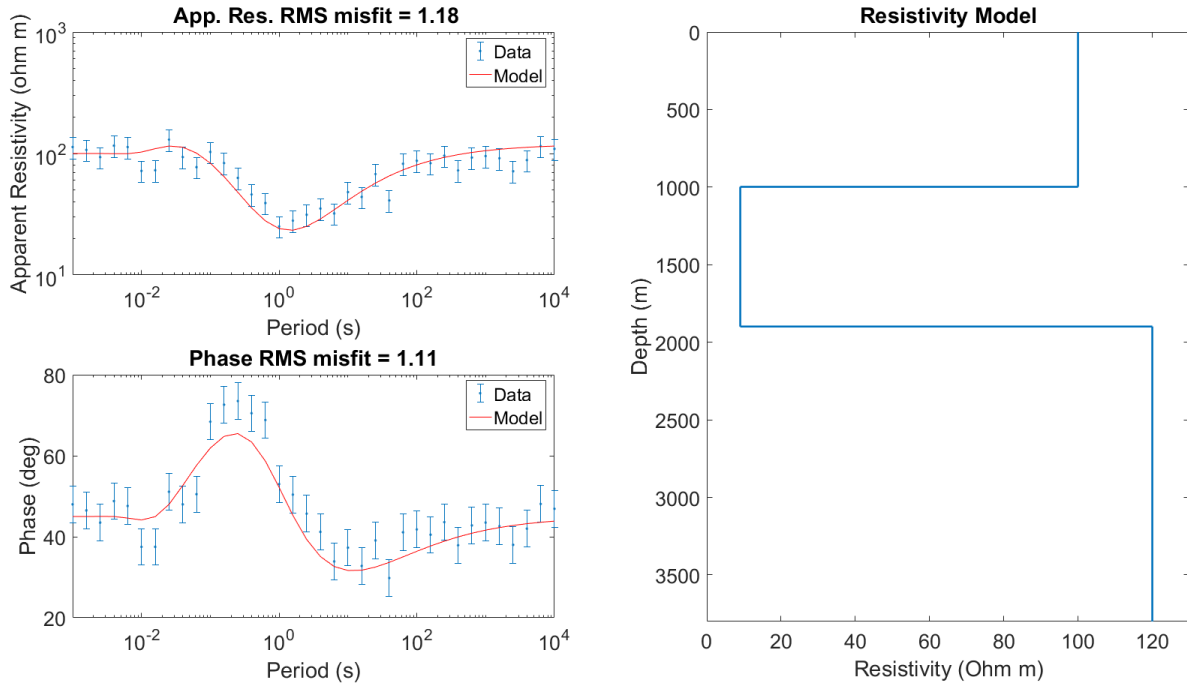

Figure 2: Example of comparing the measured data to the calculated data. The right panel shows the model used to calculate the modeled data.
- Then, write a MATLAB script called **plotMT1D.m** to plot the results of your **MT1D.m** function. Use the syntax above to call **MT1D.m**. This function should create a 3-panel figure using '*subplot*'. Plot the apparent resistivity using '*loglog*', and phase using '*semilogx*', with *period in seconds* along the horizontal axes. In the same figure, show the resistivity model (resistivity on horizontal axis, depth on vertical axis) using '*stairs*' or a similar approach. (Your figure should look similar to Figure 2.)
- (1) Load and plot MT data from a text file (frequency, apparent resistivity, phase, and errors). Include error bars (given in data file). You will need to read the data from *'S3LAY_2020.dat'*.
- (2) Read in a resistivity model from a text file (with depths and resistivity). You will need to read the file *mod.txt*.
- (3) Calculate the apparent resistivity and phase for that model by calling your **MT1D.m** function. Important: Use the same frequencies from the data file to simplify the comparison.
- (4) Plot the calculated apparent resistivity, phase, and resistivity model (can modify code from **2.2**).
- (5) Calculate and show the RMS misfit between your calculated MT data and the actual data in the plot titles (can use *'sprintf'*). See Figure 2 for an example.